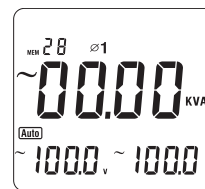

Figure 17
4. When measuring 3 phase 4 wires: (see figure 17, 18, 19)
- Press **SELECT** to choose the first phase Ø1, see figure 17.